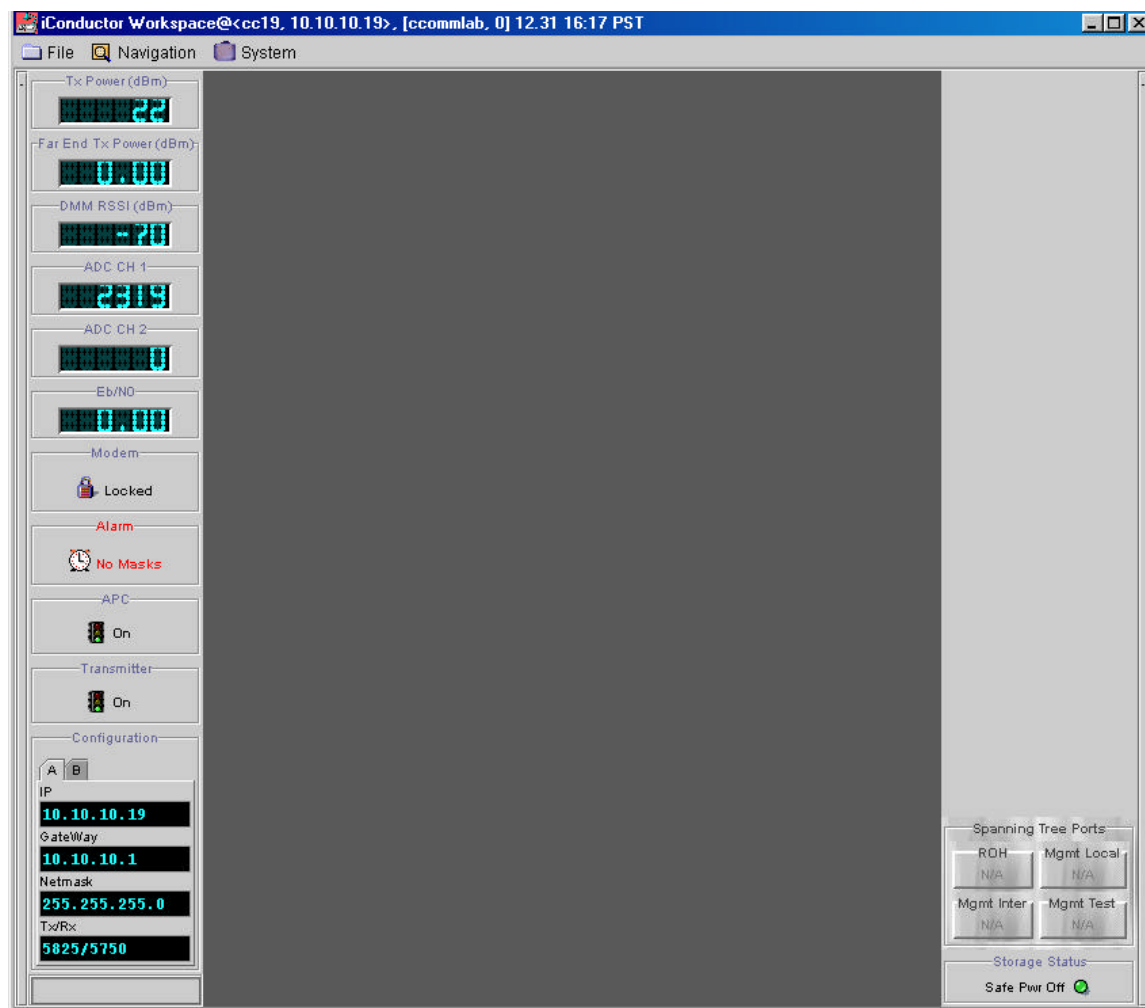

Figure 3-20. iConductor™ Workspace Window (Typical) Insert
8. Click the Connect button to login to the IDU. Login should take less than 30 seconds and the iConductor™ Workspace window will appear (see Figure 3-20).